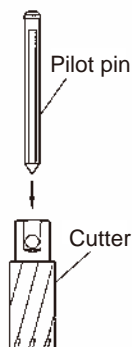

Fig. 11
- (2) Insert a Pilot Pin, appropriate for the cutter size, into the cutter. (Fig.11)